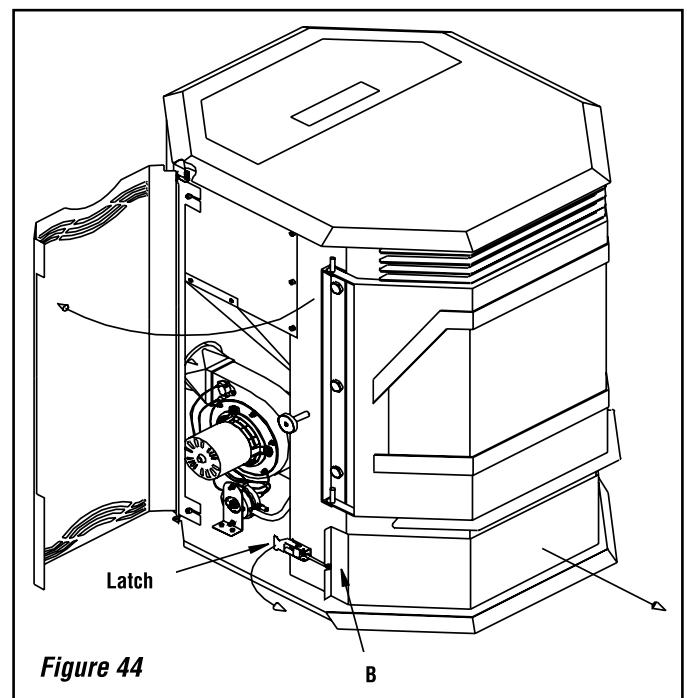

Figure 44
CAUTION: Do not remove the ash drawer when the stove is hot. To remove the ash drawer, swing open the left and right side doors. Rotate the lever on latch B (see **Figure 44**) out from the stove to release the ash drawer. Do the same with the latch on the right side of the stove. Pull the ash drawer forward and away from the stove.
6. Remove the ash drawer (see **Figures 44**) to locate the lower left and right tear drop shaped flue passageways (see D in **Figures 46A and 46B**).